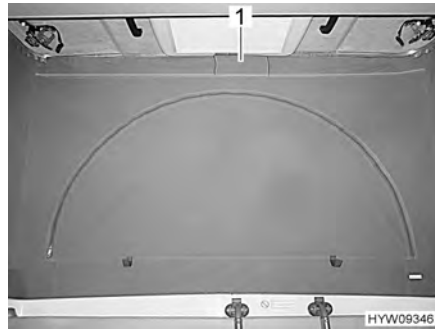

Fig. 35 Ventilation (closed)
- Release the Velcro of the fabric flap (Fig. 35,1) underneath the elevating roof. A mesh is installed behind the fabric flap as protection from insects.